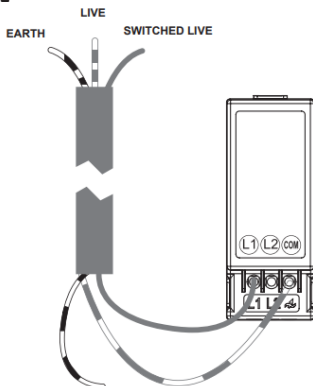
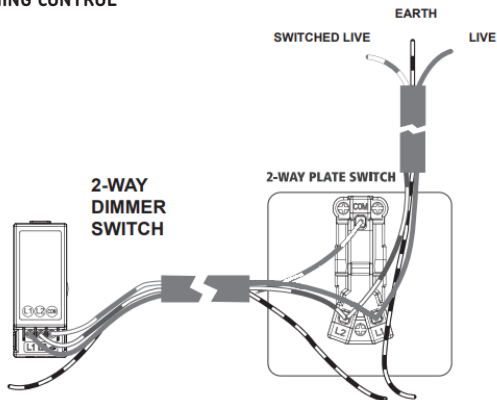

Fig. 1
Fig. 2
- Connect for one-way control (Fig. 1) or two-way control (Fig. 2), ensuring the correct polarity is observed (terminal positions may vary). Switched Live (blue) must have brown sleeving.